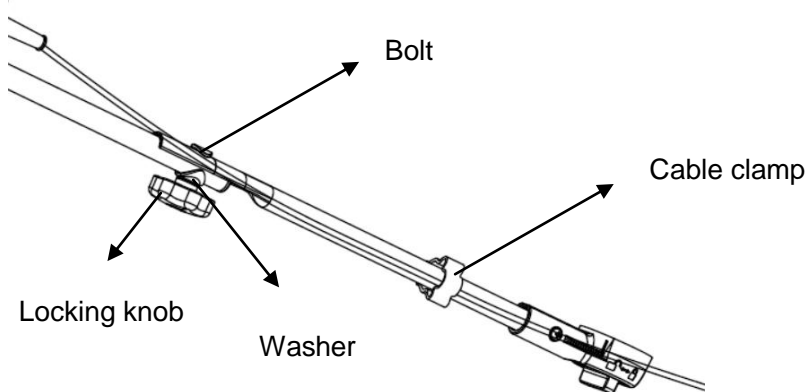

Fig. 2C
3. Fix the upper handle and lower handle with washers, bolts and locking knobs (Fig.2C)
4. Attach the cable clamp to the position shown and then attach the cable. (Fig.2C)
4. Fix the upper handle and lower handle with washers, bolts and locking knobs (Fig.2C)
5. Attach the cable clamp to the position shown and then attach the cable. (Fig.2C)